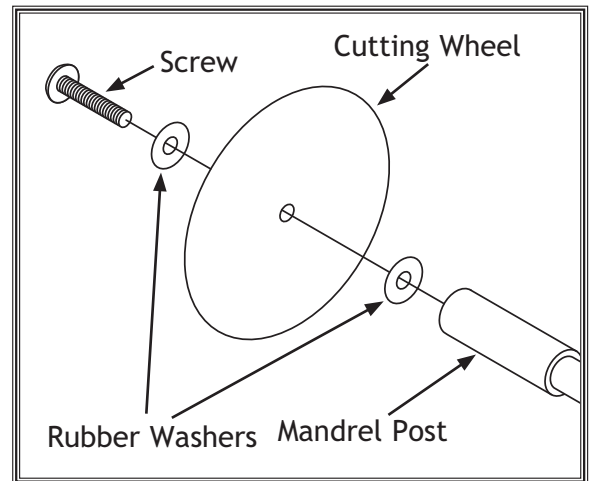

Figure 3. Installing a cutting wheel.
2. Fit the cutting wheel between the two rubber washers, as shown in Figure 3.